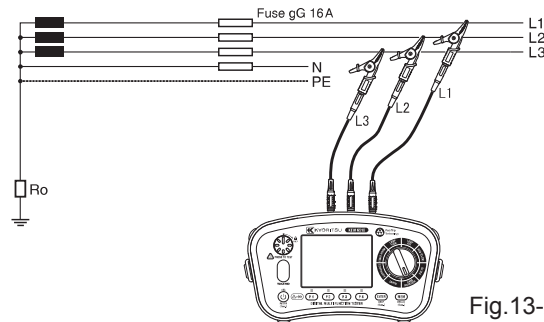

Fig.13-2
3. Connect each test leads to a circuit. (Fig.13-2)